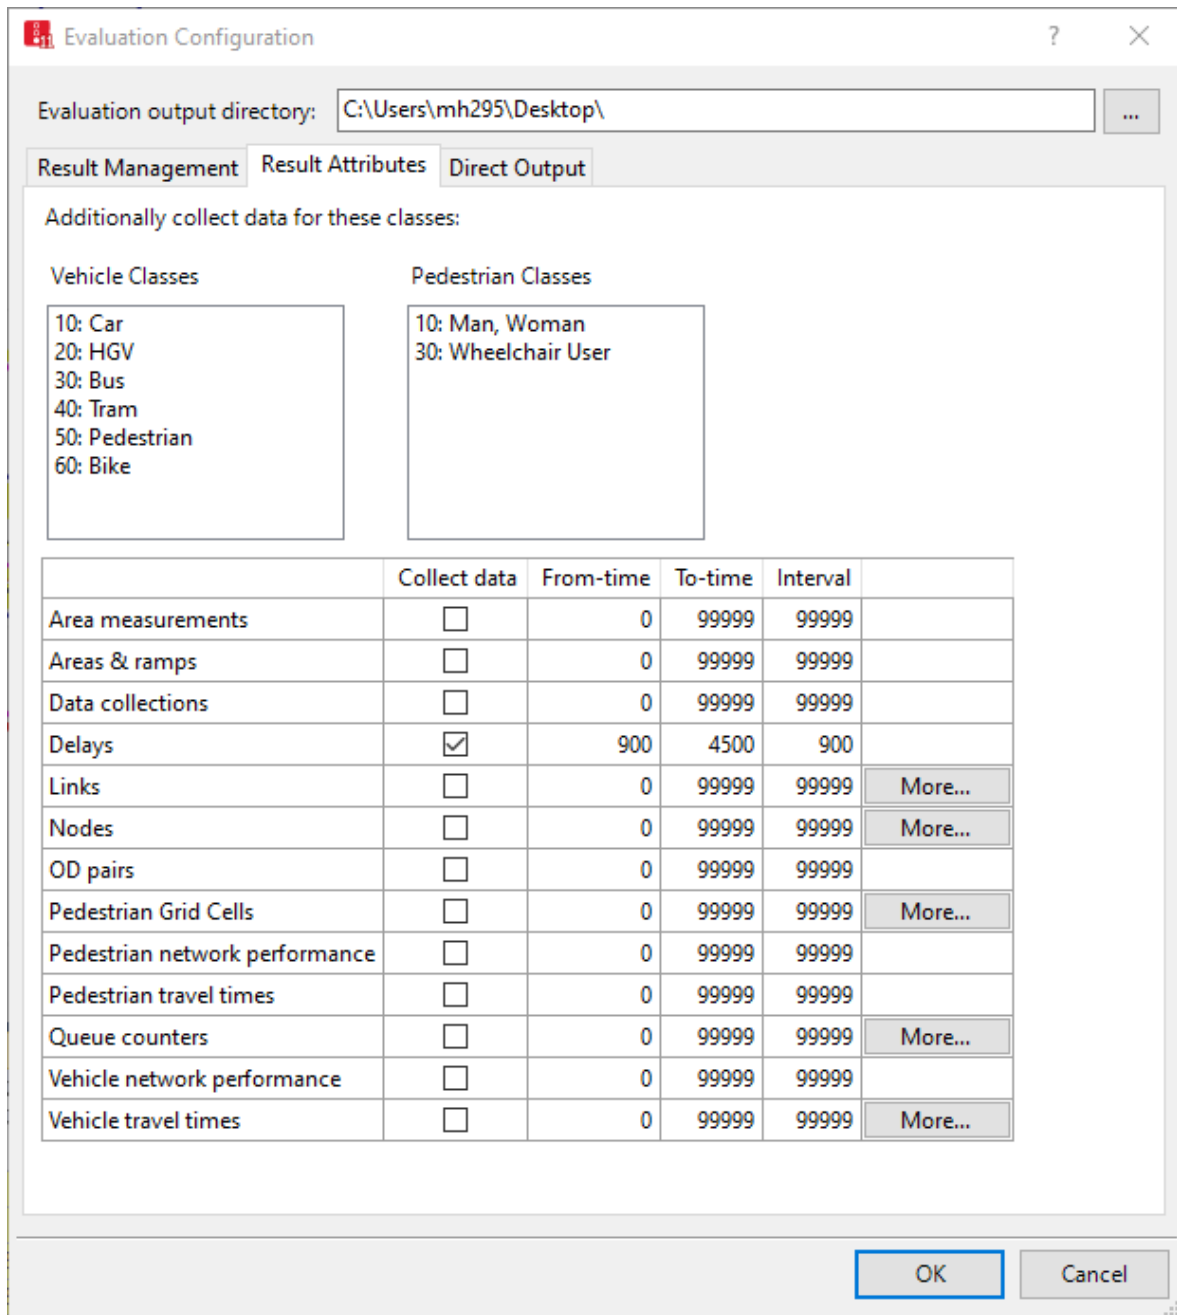

Figure 30: Evaluation Configuration pop-up window, Result Attributes tab
- step i. In the main menu bar, click on *Evaluation* → *Configuration*. The *Evaluation Configuration* pop-up box should appear (see Figure 30).